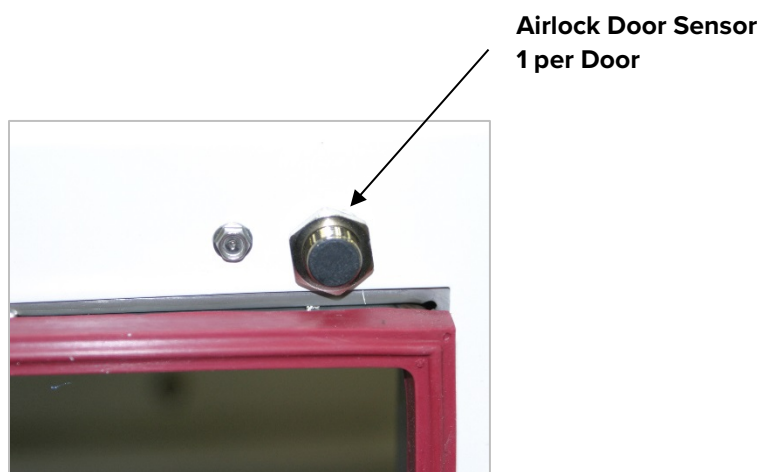

Figure 16: Airlock Door Sensor
- Take special care when cleaning around and chamber power outlets to prevent damage. Do not clean the airlock door alarm sensors (see Figure 16).